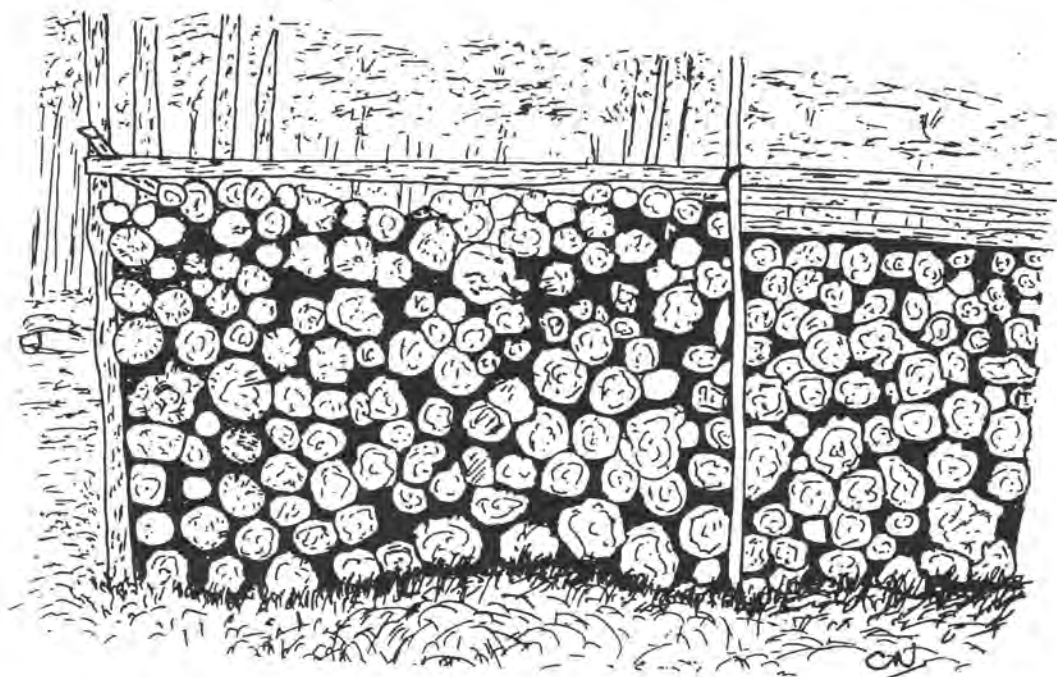

Figure 2.1: A standard stack of 3m^3 (1m high x 1.5m length of wood x 2m breadth of stack) to allow free air circulation
- Stack the fuelwood to dry for about 6 weeks in the open where there is ample sunlight and wind to facilitate rapid drying to a moisture content of less than 20% before carbonising (Figure 2.1). Stacking assists in estimating the volume of wood to be carbonised .